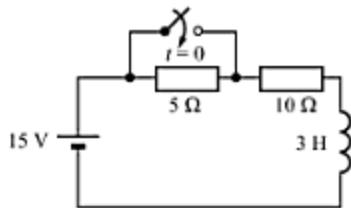

Fig. 8.26
17. For the circuit of Fig. 8.26, determine the steady-state current when the switch S is open. Calculate the value of current at  $t = 0.8$  s after the switch is closed.